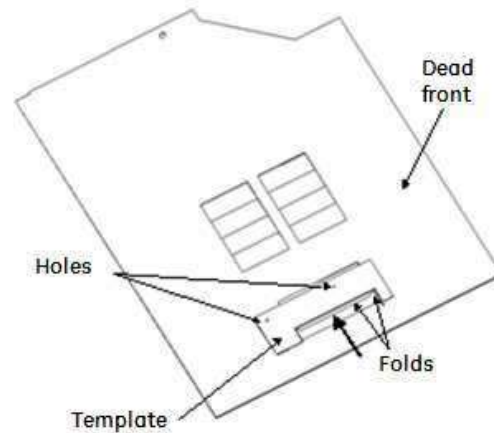

Figure 2: Mounting Hole Template
2. Insert the folds of the template in the knockout of 4-pole main breaker and slide towards the branch breaker knockouts until it ceases to slide further (see Figure 2).